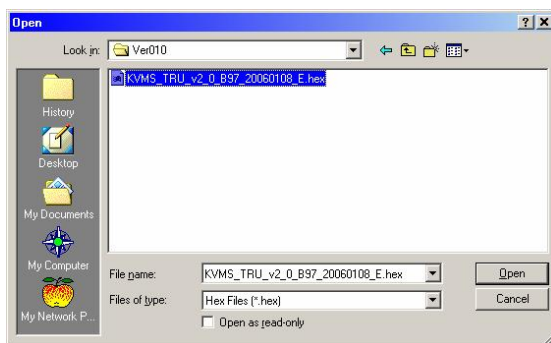

Figure 17 Open box
2. From the **File** menu, choose **Open**. The **Open** box appears. See Figure 17.